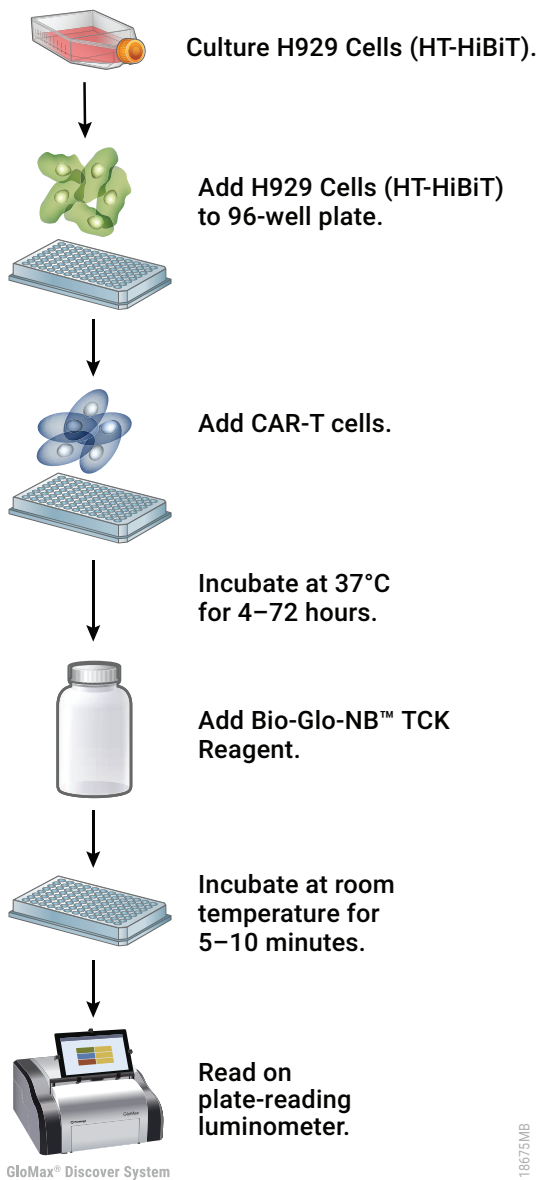

Figure 12. Schematic protocol using the H929 (HiBiT) TCK Bioassay with CAR-T cells.
This procedure illustrates the use of H929 Cells (HT-HiBiT) to test CAR-T effector cells against a reference sample in a single cytotoxicity assay (Figure 12). Each test and reference CAR-T is assayed in triplicate, in an eight-point effector-to-target (E:T) ratio dilution series, in a single 96-well assay plate using the inner 60 wells. Other experimental and plate layouts are possible but may require further optimization.
3. Using a multichannel pipette, add 40 μ l of the appropriate CAR-T dilution to wells B3–G10 of the assay plates according to the plate layout in Figure 12. Add 40 μ l of CAR-T assay buffer to MR and SR control wells (B2–G2 and B11–G11, respectively).